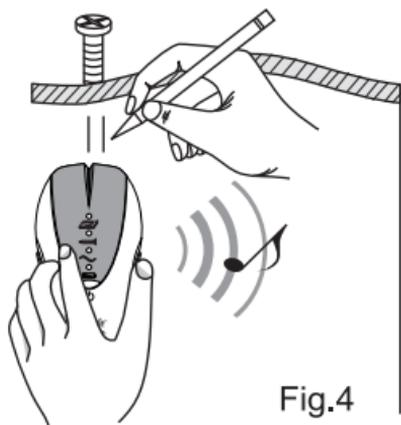

Fig.4
3. continue scanning beyond the marked spot until the LED go out. Slide unit in reverse direction to locate other edge of stud. Mark this second spot. Middle of metal is centered between the two marks. (fig.4)